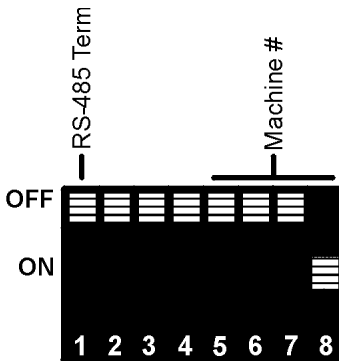

Figure 22: DIP-switch Setting for Machine 2
- Set the Machine number on all **VP-88K** units other than Machine 2 to a unique number between 3 and 16 (see Section 6.5)¹. Figure 22 shows the DIP-switch setting for Machine 2.